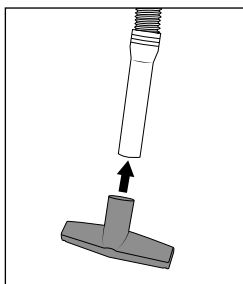

Fig. 10
- ◆ Push the upholstery nozzle 21 onto the suction hose 23 to vacuum upholstery or curtains, for example (see fig. 10).